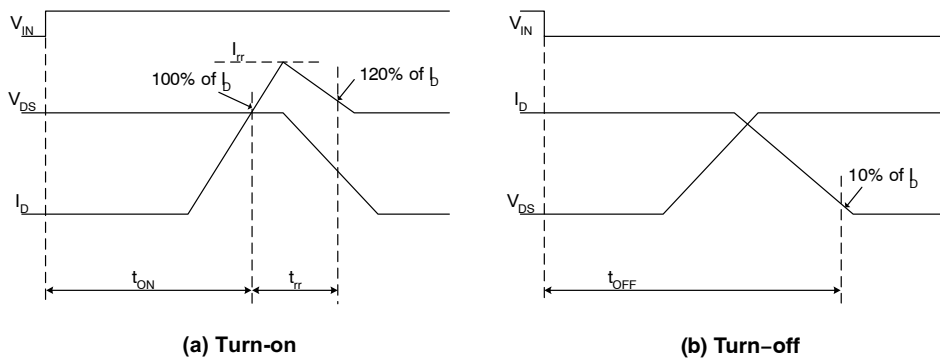
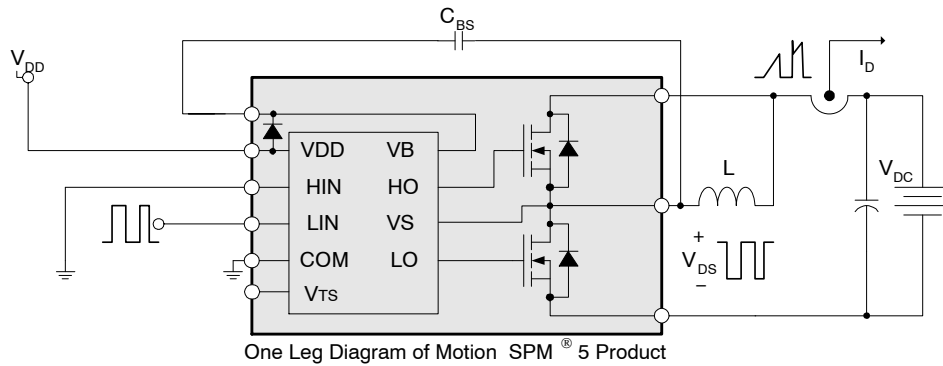

Figure 6. Switching Time Definitions
Figure 7. Switching and RBSOA (Single-Pulse) Test Circuit (Low-side)
6. t_{ON} and t_{OFF} Include the Propagation Delay Time of the Internal Drive IC. Listed Values are Measured at the Laboratory Test Condition, and They Can be Different According to the Field Applications Due to the Effect of Different Printed Circuit Boards and Wirings. Please see Figure 6 for the Switching Time Definition with the Switching Test Circuit of Figure 7.
7. The peak current and voltage of each MOSFET during the switching operation should be included in the Safe Operating Area (SOA). Please see Figure 7 for the RBSOA test circuit that is same as the switching test circuit.